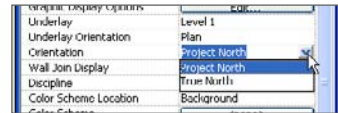

Figure 5.18
**Orientation** A project is usually drawn so that it is easy to describe on a printed page. The actual north bearing of a project is important but is not often conducive to creating drawings. It is therefore a pretty common habit to create drawings that use a project north orientation while providing a north arrow symbol that tells the reader which direction true north is. The templates that come with Revit have their plan-oriented views assigned to Project North (see Figure 5.18). This means that you should start by being just a little ambivalent about which direction north really is. It is easy to let Revit know which direction true north is later via the Rotate True North tool. Once this has been done, then any plan view can be assigned to either True North or Project North as needed.